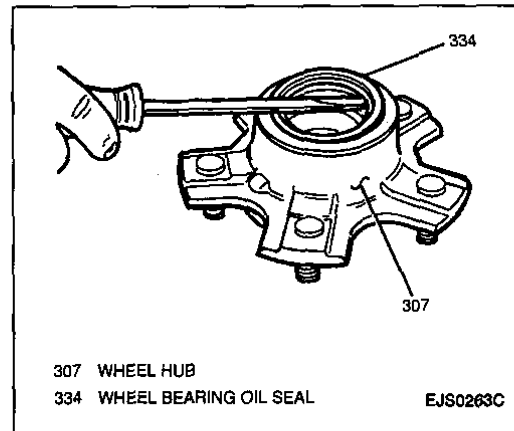

Figure 26—Removing Wheel Bearing Oil Seal
10. Wheel bearing oil seal from hub (Figure 26).